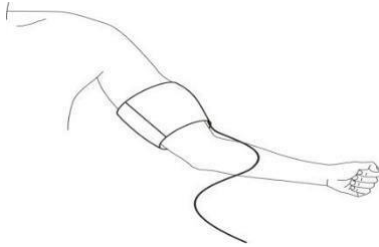

Figure 8-1 Applying Cuff
- 2- Apply the blood pressure cuff to the patient's arm or leg (Figure 8-1) and follow the instructions below.